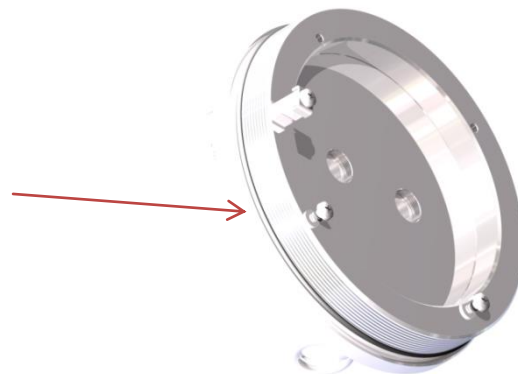

Figure 10-10 Position of the O-Ring sealing type T08-TNXCD
- Attention: When removing the flange, do not damage or pollute the black O-Ring sealing (VMQ-Silikon, NBR-70 or Viton) (q.v. figure10-10)!